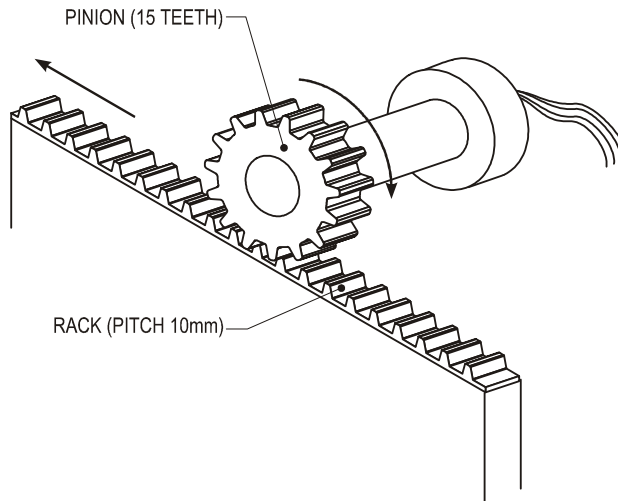

FIGURE 2
3. Figure 2 below shows a rack and pinion mechanism being controlled by a stepper motor. If the movement of the motor is 7.5 degrees per pulse, what is the number of pulses required to move the rack 50 mm?